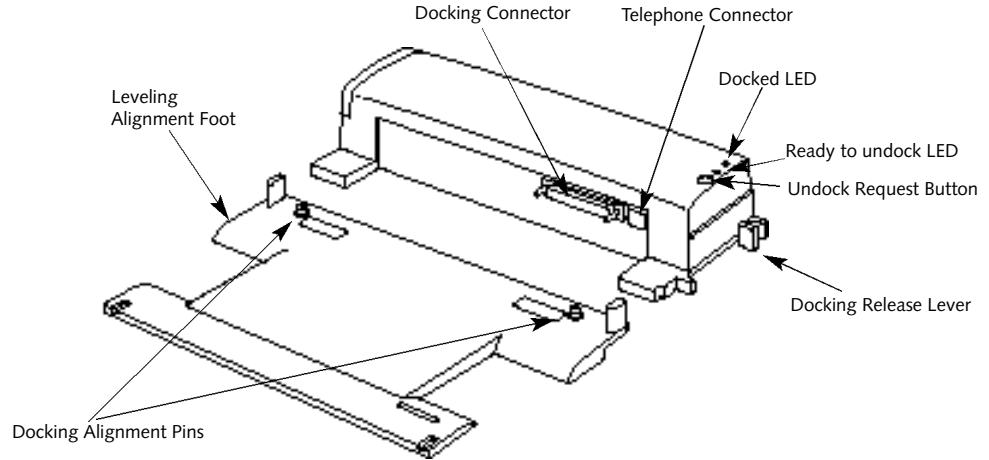

Figure 4-17 LANdock Front View
6. Set your notebook on the leveler, making sure that the alignment pins on the leveler (Figures 4-17 and 4-19) fit into the Docking Alignment receptacles in the bottom of your notebook. (Figure 1-8 on page 10.)
10. Verify that docking is complete by checking that the LifeBook Docked LED is illuminated. (Figure 4-17.)